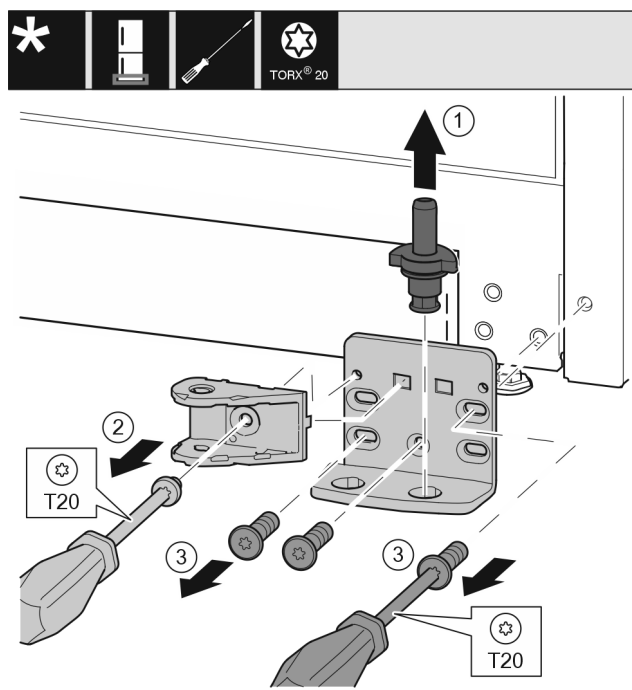

Fig. 32
- ▶ Lift the bearing pin completely upward and remove it. Fig. 32 (1)
- ▶ Remove the screw with the T20 screwdriver and take off the soft close connection. Fig. 32 (2)
- ▶ Remove the screws with the T20 screwdriver and take off the bearing bracket. Fig. 32 (3)